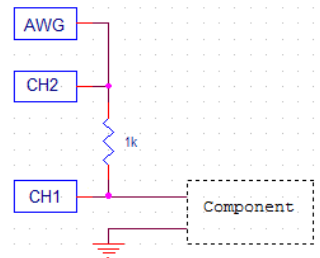

Figure 64: Component tester
- 1) Build the circuit shown in figure 64.